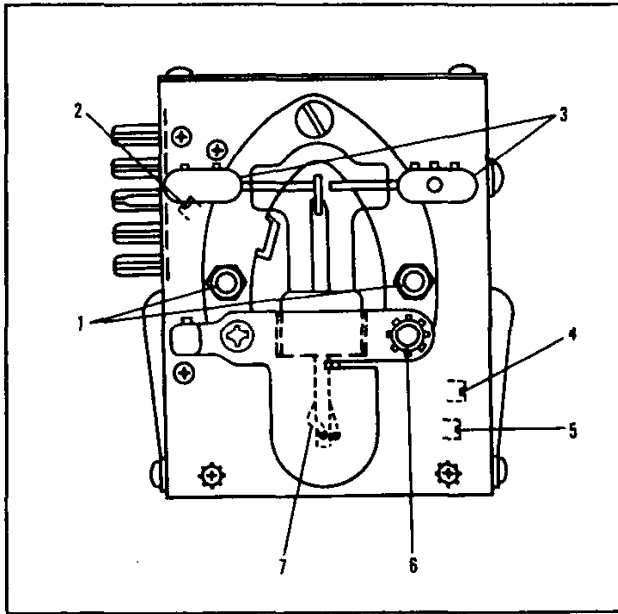

Figure 5-11. Keying Relay K102 and Vacuum Contact S116
(1) Loosen the setscrews that hold the connecting wires to the fixed contact terminals (No. 3 in fig. 5-11), and remove the wire connector.
(2) Loosen the stud (No. 6 in fig. 5-11) until the clamp around the base of the vacuum contact becomes loose enough to allow the removal of the glass vacuum tube. Remove the tube containing the switch by pulling glass tube straight up.
(3) Note the split collar on end of glass operating arm that connects vacuum contact to relay case. Loosen setscrew in this collar so that collar is loose on its shaft.
(4) Before attempting to install the new vacuum switch, note the manner in which the movable switch arm (extending out of bottom of glass bulb) engages the wire actuating arm (No. 7 in fig. 5-11). When installing the new switch, the arm of the switch must be securely engaged between the two wires that form the actuating arm (No. 7 in fig. 5-11). To prevent damage to the new switch, it is recommended that the two wires forming the actuating arm, be spread apart very slightly while the vacuum switch arm is being engaged. This may be accomplished by using a screw driver blade to spread the wires approximately $1/32$ ".
(5) Place rubber gasket in position and insert new vacuum switch in socket. Be sure movable switch arm is securely engaged in wires of operating arm No. 7.
(6) Retighten stud (No. 6 in fig. 5-11) and reconnect wires to terminals labelled No. 3 in figure 5-11.
(7) With relay in normal unoperated position, the vacuum contact (in glass bulb) should be closed and resting firmly against the fixed contact that is connected to RECEIVER terminal of transmitter. To se-
(8) The timing adjustment of the vacuum contact can now be made. Remove top cover of keying relay case by taking out two Phillips screws on the top surface.
(9) Examine the interior of the relay and note double row of contacts near top. Also note that movable contact arms are all attached to a thick bakelite plate located in the center of the case. By using a thin tool, with a notch in one end, that is capable of straddling this bakelite plate, it is possible to grip the bakelite and operate the relay mechanically by pushing the plate from side to side. Note that as this bakelite plate is moved, all movable contact arms in the relay as well as the movable arm in the vacuum contact will also move.
(10) With the relay in the normal "rest position," three internal relay contacts, on the side nearest the plug, are closed and the vacuum contacts (in external glass bulb) should now be resting firmly against the fixed contact that connects to the RECEIVER terminal on the side of transmitter case.
(11) If vacuum contact is not set properly, loosen two studs (labelled No. 1 in fig. 5-11) that hold horse-shoe shaped yoke to relay case.
(12) Note adjustment screw (labelled No. 2 in fig. 5-11) that can be seen through hole on plug side of case. By rotating this screw, the position of the movable arm in the vacuum contact can be adjusted as desired.
(13) After vacuum contact has been adjusted to correct position while relay is in rest position, the relay should then be operated mechanically (as described in step No. 9) and the action of the vacuum contact and the 5 normally open contacts on the interior of the relay case should be noted.
(14) As the relay is operated mechanically, the correct sequence of contact make and break is as follows:
(15) If above sequence is not obtained, further adjustments of screw labelled No. 2, in figure 5-11 is
(16) After adjustment has been completed, re-tighten two screws labelled No. 1 in figure 5-11.